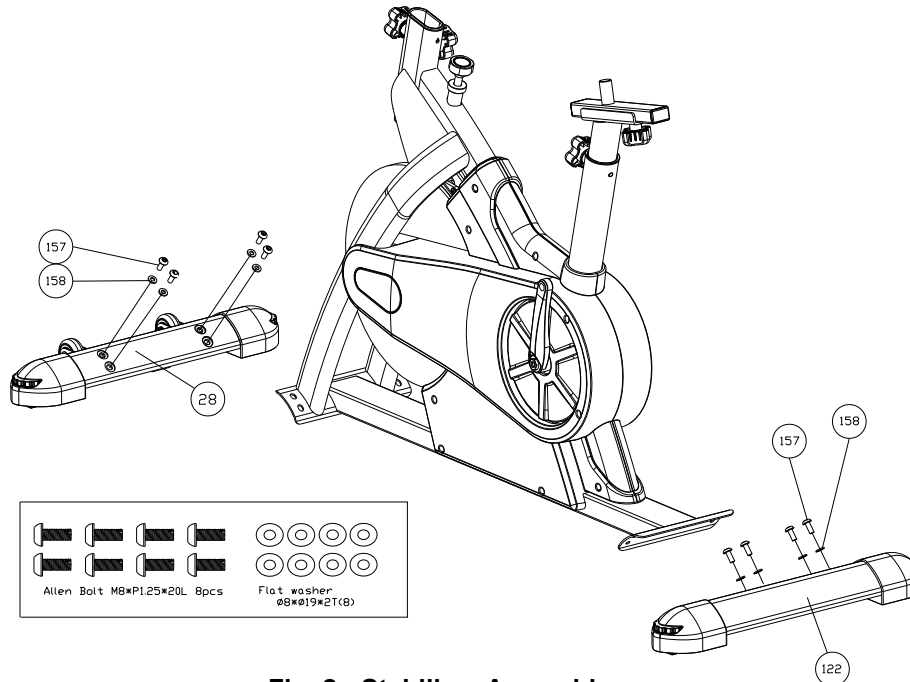

Fig. 2 : Stabilizer Assembly
1. Position the machine's rear on the Rear Stabilizer (122) as shown in figure 2. Tighten securely using bolts (157) and Flat washers (158).
2. Position the front Stabilizer (28) with the wheels facing forward as shown in figure 2 paying attention to the red dots. Secure with the bolts (157) and Flat washers (158)